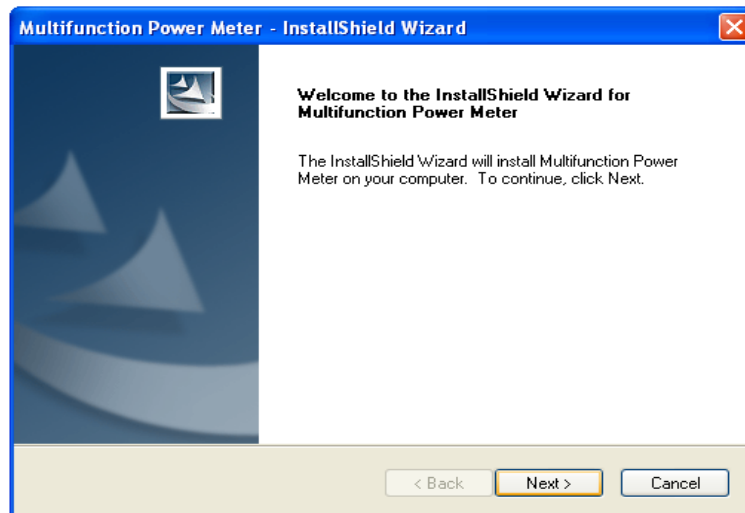
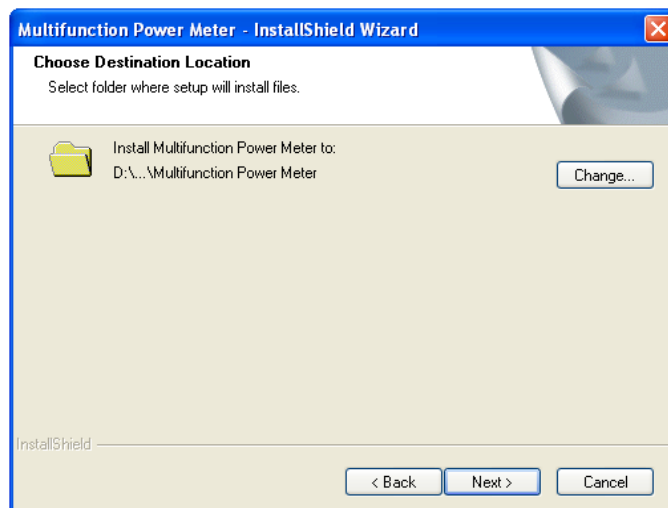

Fig. 128
Fig. 129
- (4) When the page in Fig. 128 is shown, click "next", the Fig. 129 is shown.